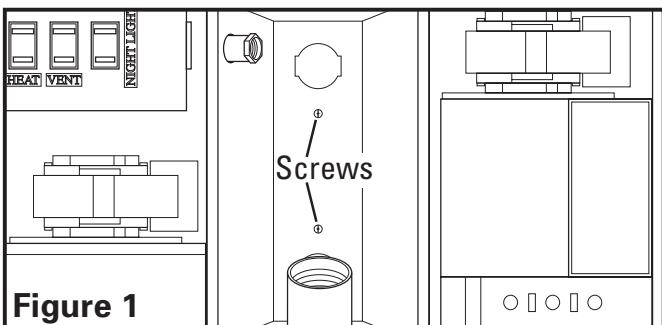

Figure 1
2. Remove the two machine screws holding the light reflector in place. Keep the reflector and screws in the carton until needed so they do not get damaged or lost (Figure 1).